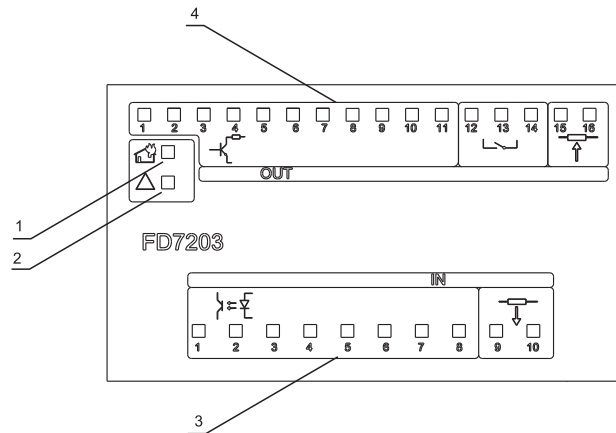

Fig.2
- indicator illuminated if an output or an input is activated (pos. 1, fig.2);
- indicator showing a Fault condition (pos.2, fig.2);
- indicators of the electroplated separated 1+8 and monitored inputs 9 and 10 (pos.3, fig.2);
- indicators of the outputs OK 1÷11, relay 12÷14 and monitored 15 and 16 (pos.4, fig.2).
- activated input – an individual LED (pos.3.fig.2) flashes with continuous green light and the red LED flashes on with discontinuous (pos1, fig.2) every 2 seconds;
- activated output – the individual LED (pos.4, fig.2) flashes on with continuous green light and red LED with (pos.1, fig.2)with continuous light;
- fault condition – break or short circuit in an input or an output -yellow LED (pos.2, fig.2) flashes on with continuous;
- an activated isolator of the power loop – yellow LED (pos.2, fig.2)with discontinuous light every 2 seconds;
- an activated osolator of the addressable loop – yellow LED flashes on (pos.2, fig.2) with discontinuous light every second.